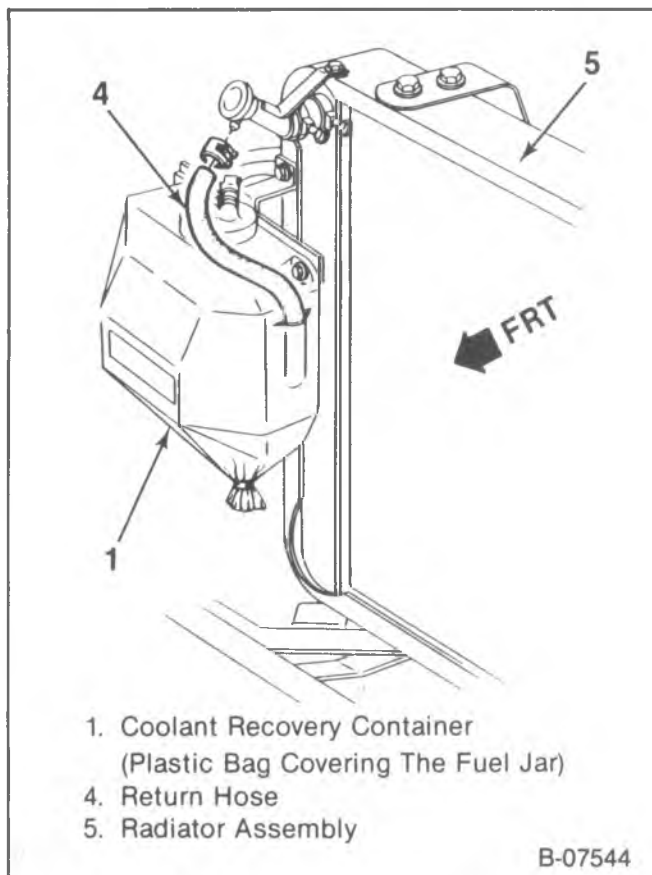

Figure 6—P - Coolant Recovery System
1. Coolant from the deaeration tank (10).
3. Return hose (12) from the deaeration tank (10).
4. Deaeration tank (10) from the vehicle.
- For R/V and P vehicles; bolts/screws (7), and the retaining straps (8) from the support brackets (9) (figures 6 and 8).